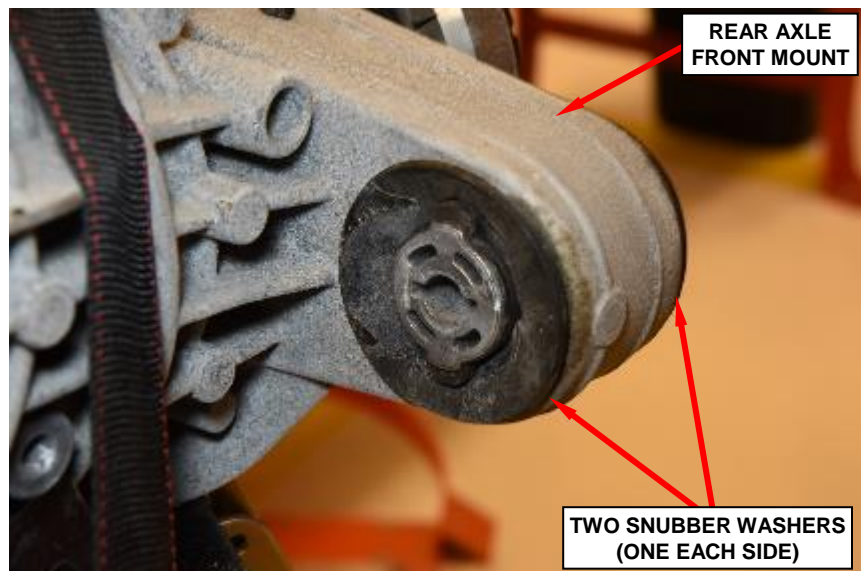

Figure 25 – Snubber Washers Rear Axle Front Mount
39. Remove the two rubber snubber washers from the rear axle front mount (Figure 25).
4. Install the two rubber snubber washers to the rear axle front mount (Figure 25).